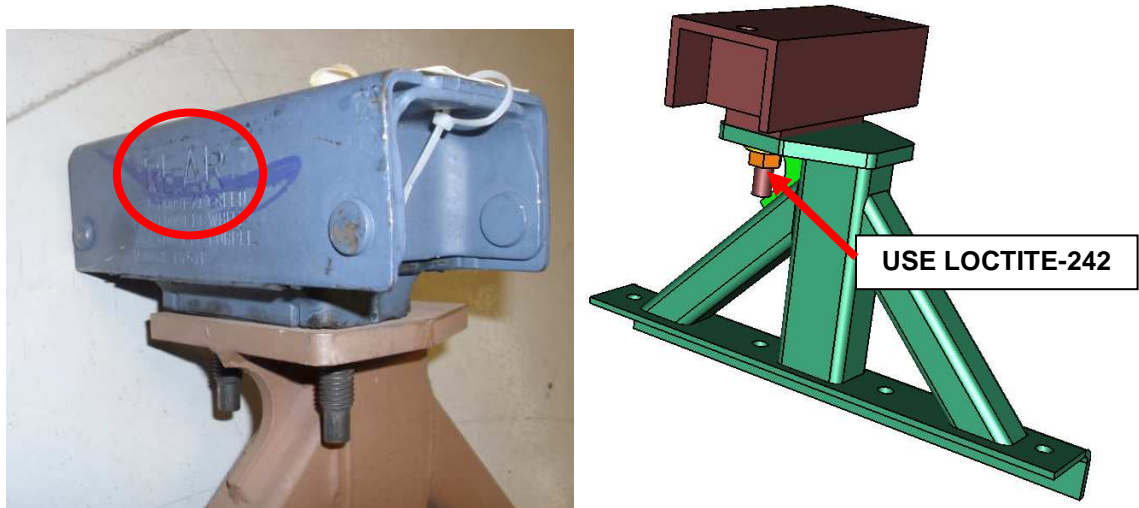
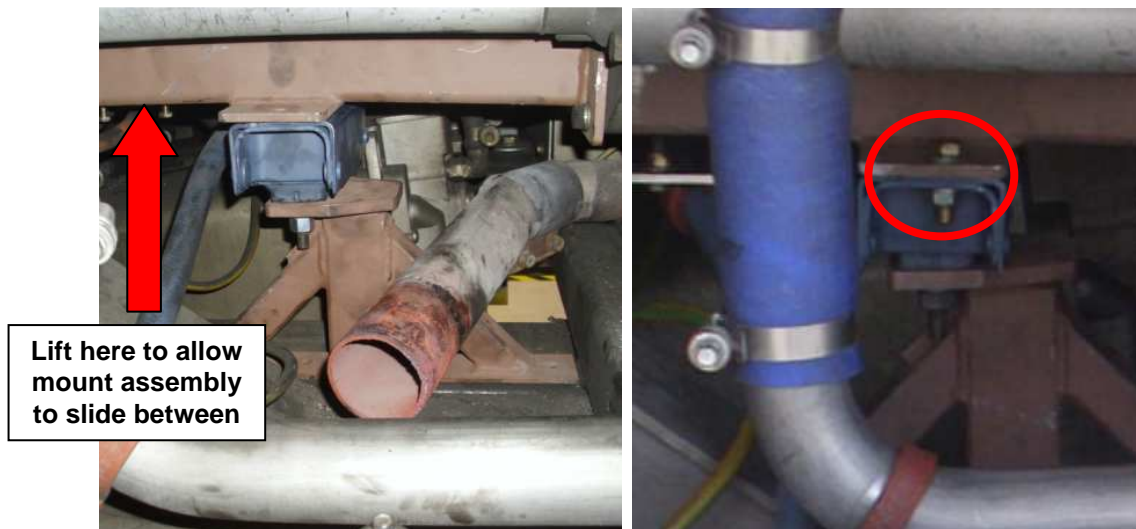

Figure 27: Assembled generator mount assembly
Figure 28: Generator mount assembly
- e. Sub-assemble generator isolator (**NFI PN 477289**) to generator mount frame NFI PN 477655 using two M12x1.5 nuts (**NFI PN 492408**) and two ½” hardened flat washers (**NFI PN 20W08000**). Ensure the REAR stamping on the isolator faces the REAR of the generator. Use Loctite-242 **NFI PN 8110440**. See Fig 27.
- f. Using a bottle jack between the generator and engine cradle frame, lift the generator up and remove the spacers in Fig 25 (discard as they are no longer used) to allow the generator mount assembly (Fig 27) to be installed between the generator support and engine cradle. Secure assembly with two 7/16 bolts **NFI PN 10B07020**, four 7/16 flat washers **NFI PN 10W07000**, and two 7/16 lock nuts **NFI PN 40N07000**. Use Never Seize **NFI PN 5928660** for all connections. See Fig 28